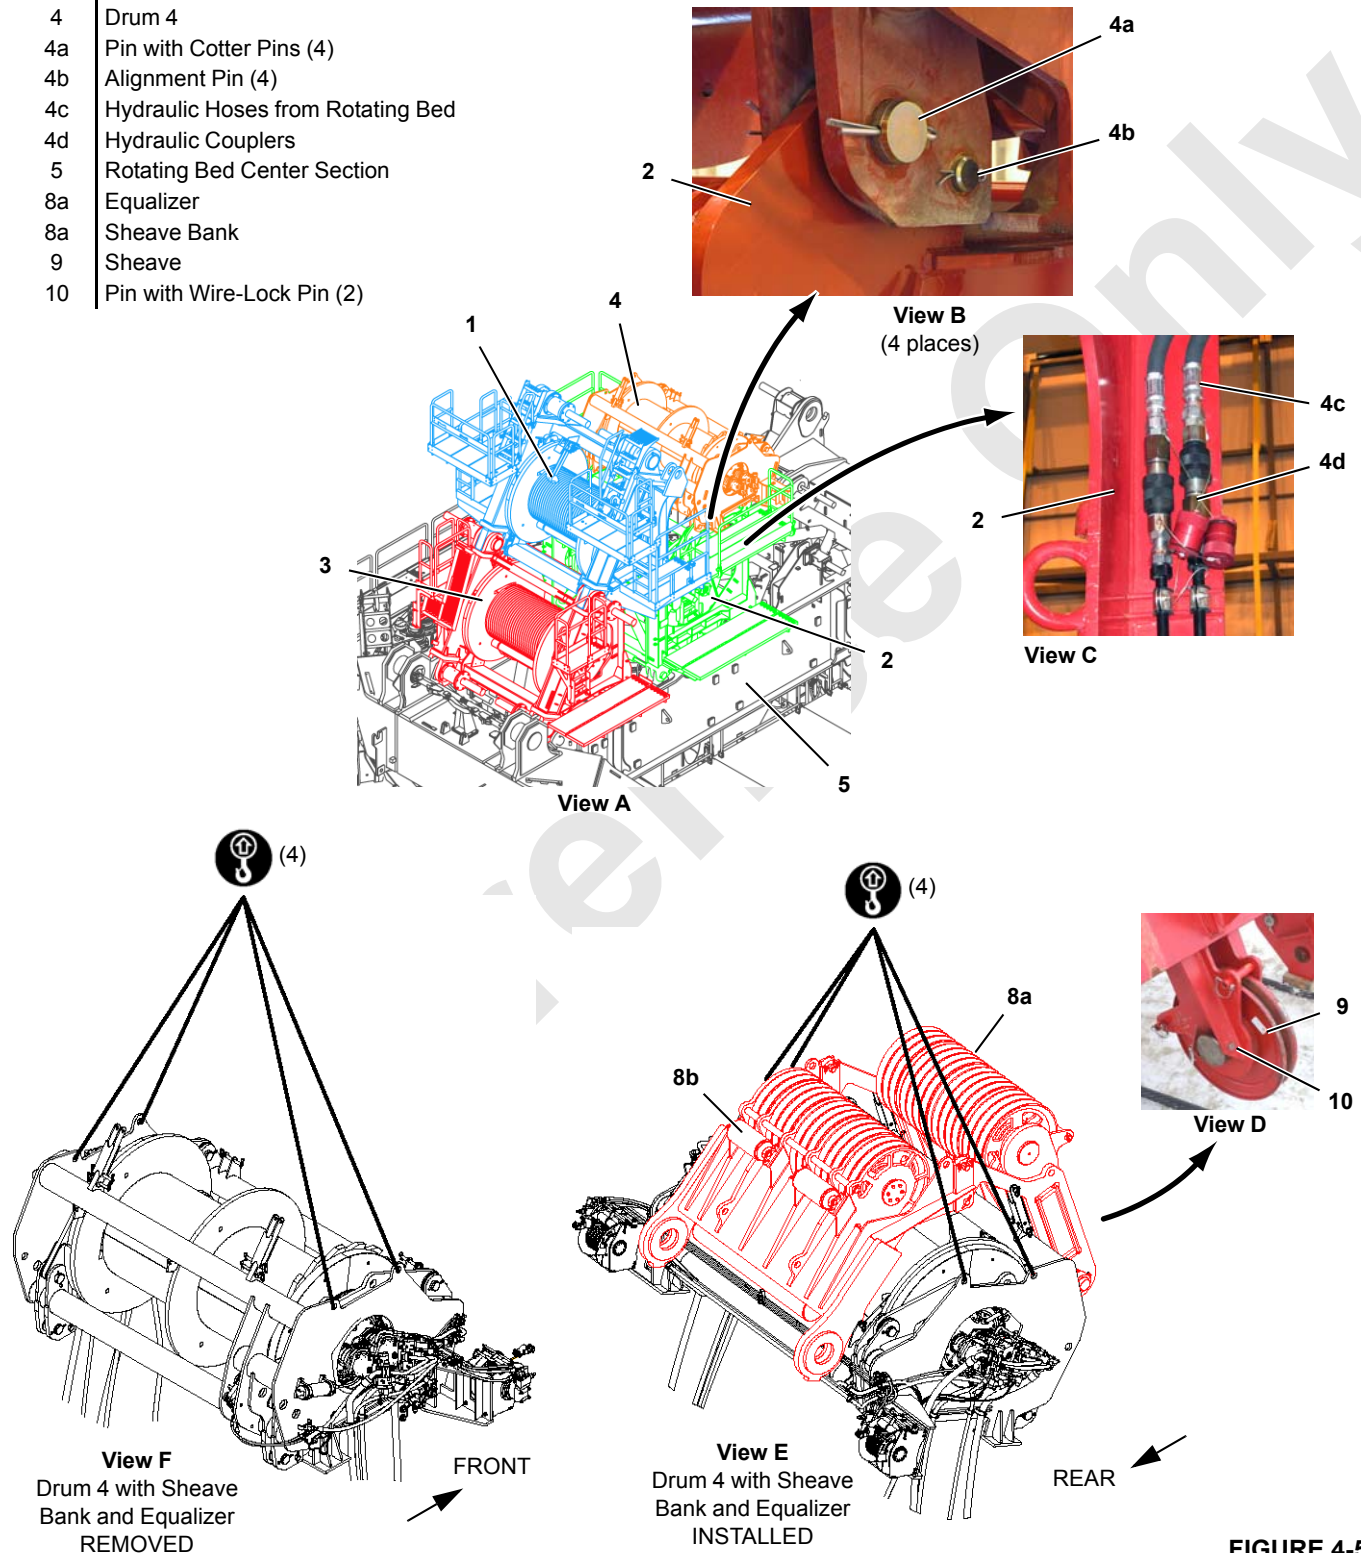

FIGURE 4-59
See Figure 4-59 for the following procedure.
1. Lift drum (4) as shown in Figure 4-59, View E or F.
Lift entire drum (4) assembly — with sheave bank and equalizer installed or removed — as shown in Figure 4-59, View D or E.
2. Lift drum (4) into position over the connecting lugs on drum (2, View B).
4. Slowly lower drum (4) onto drum (2).